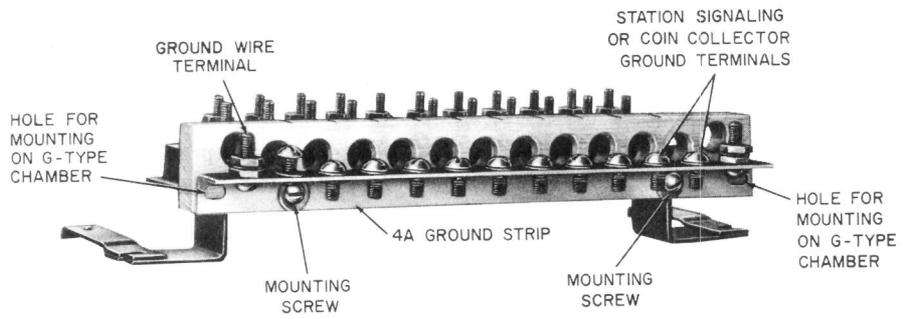

Fig. 61—Typical Installation of 4A Ground Strip
**7.05** The 4-type ground strips are angular-metal brackets equipped with terminal screws and two binding posts. They are used with 102-type adapters when installed with connecting blocks (Table G). See Fig. 61 and 62 for typical 4-type ground-strip installations.